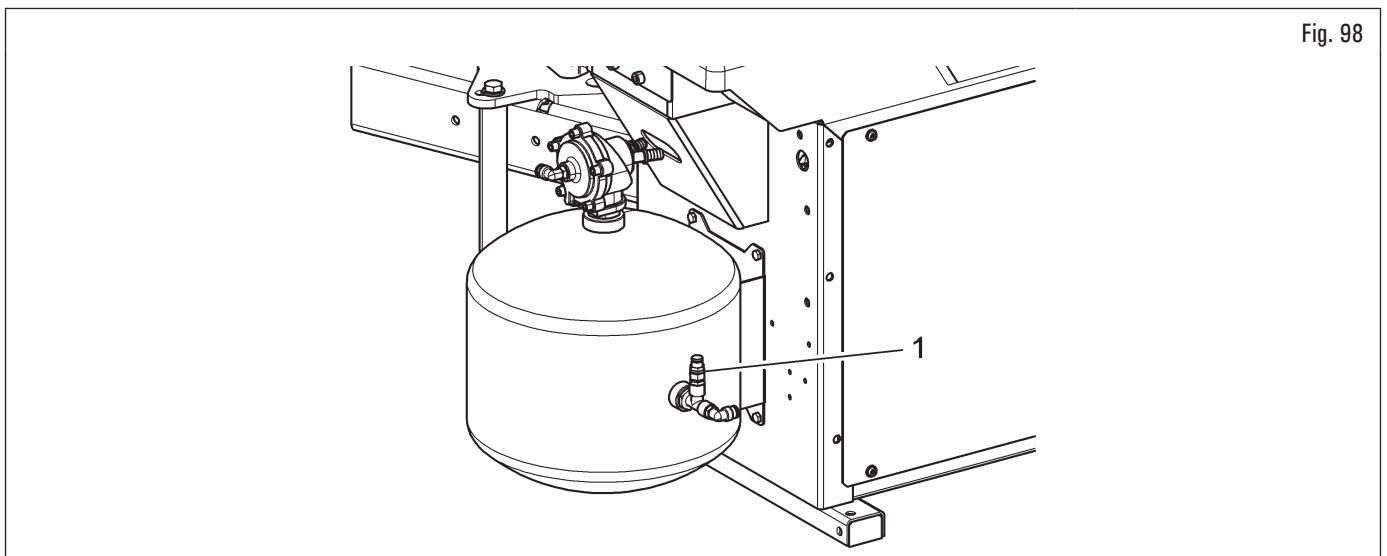

Fig. 98
The safety valve (Fig. 98 ref. 1) avoids that the tubeless inflation tank is under a pressure above 12 bar (174 psi).